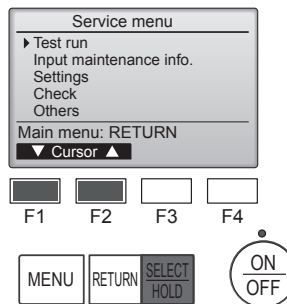

Fig. 7-1
1. Select "Test run" from the Service menu, and press the [SELECT/HOLD] button. (Fig. 7-1)